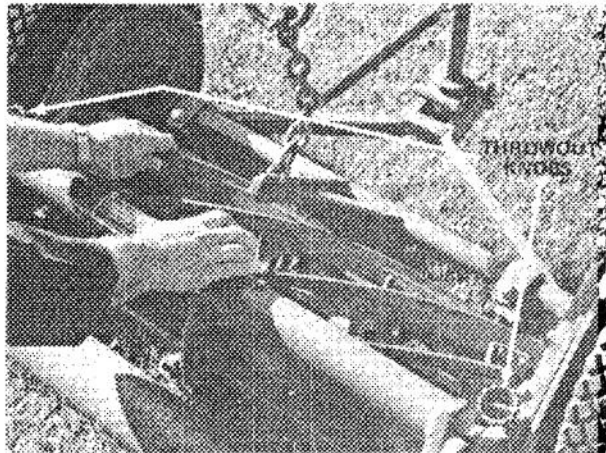

Figure 10
2. Disengage reel throwout knobs by rotating them outward (Fig. 10). Carefully spin reel backward to insure free movement.
3. While spinning reel backward, rotate bedknife adjusting knob counterclockwise (Fig. 10) until bedknife does not touch reel blades.
4. While spinning reel backward, rotate adjusting knob clockwise (Fig. 10), one click at a time, until light contact of bedknife and reel is noticed or a whispering cutting sound is heard.
6. At the beginning of the cutting day, when reels are cold, engage the reel throwout knobs (Fig. 10). Operate mowers for 15 to 20 minutes so the bedknife and reel reach normal operating temperature; then stop operation. Next, disengage reel throwout knobs and spin reel backward. A whispering sound — not clicking — should be emitted, and this assures correct adjustment. If a whispering sound is not heard, bedknife and reel must be readjusted; refer to steps 3-5. By contrast, when reels are warm from being used, use only steps 1-5 to maintain light contact between bedknife and reel.